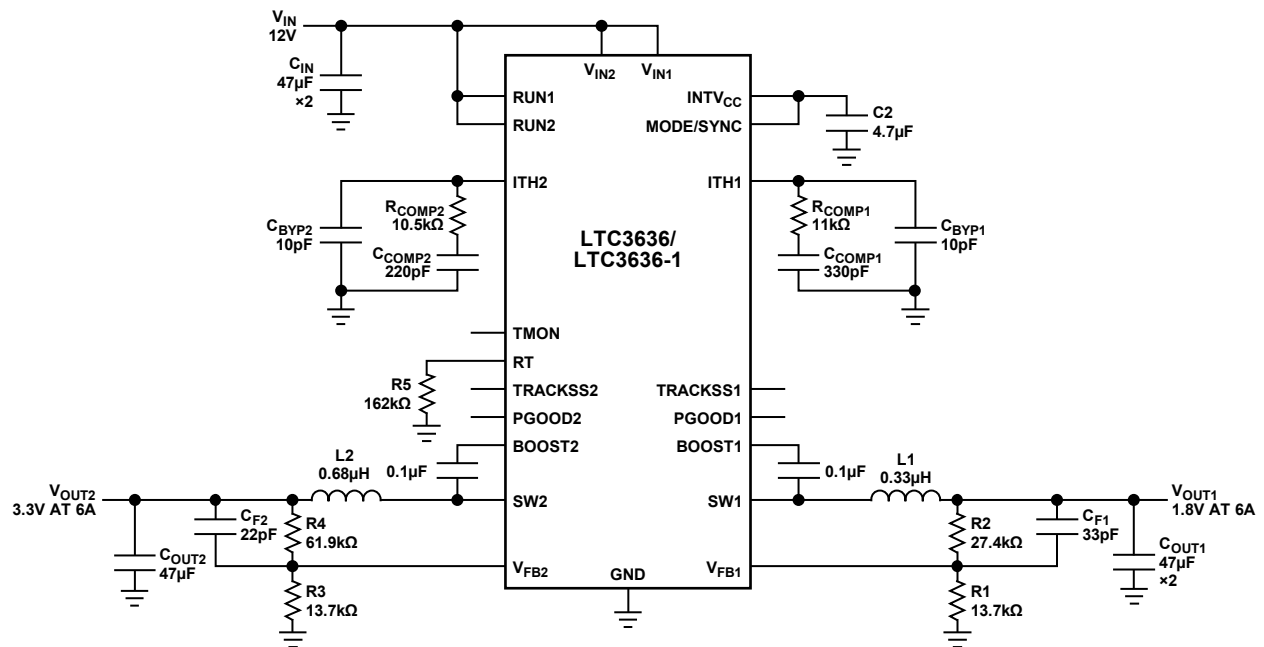

Figure 34. Design Example Circuit
3. The resistive divider, (e.g. R1 to R4 in Figure 34) must be connected between the (+) plate of C_{OUT} and a ground line terminated near GND. The feedback signal V_{FB} should be routed away from noisy components and traces, such as the SW line, and its trace length should be minimized. Keep R1 and R2 close to the IC.
The final circuit is shown in Figure 34.